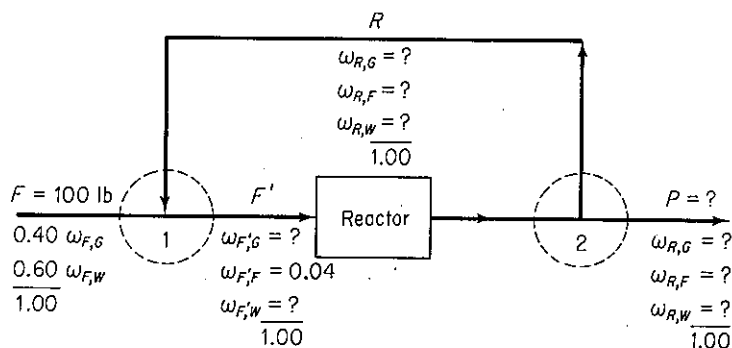

Figure E2.26b
**Steps 1, 2, and 3** Figure E2.26b includes all the known and unknown values of the variables using appropriate notation ( $W$  stands for water,  $G$  for glucose, and  $F$  for fructose in the second position of the mass fraction subscripts). Note that the recycle stream and product stream have the same composition and consequently the same mass fraction symbols are used in the diagram for each stream.